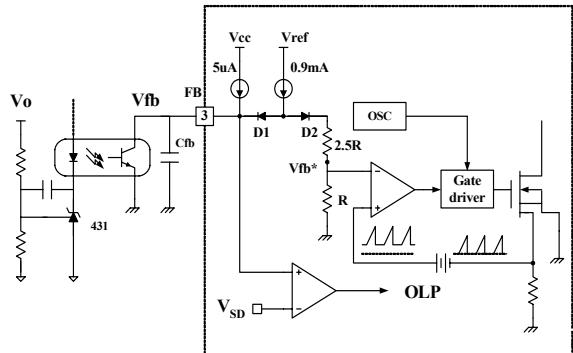

Figure 5. Pulse width modulation (PWM) circuit
2. Feedback Control : The FSDx0265RN employs current mode control, shown in figure 5. An opto-coupler (such as the H11A817A) and shunt regulator (such as the KA431) are typically used to implement the feedback network. Comparing the feedback voltage with the voltage across the Rsense resistor plus an offset voltage makes it possible to control the switching duty cycle. When the reference pin voltage of the KA431 exceeds the internal reference voltage of 2.5V, the H11A817A LED current increases, thus pulling down the feedback voltage and reducing the duty cycle. This event typically happens when the input voltage is increased or the output load is decreased.